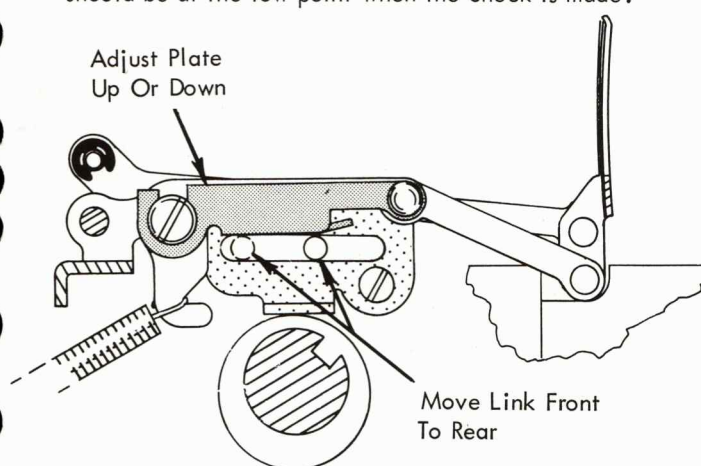

FIGURE 195. Ribbon Lift Guide Plate Adjustment
5. Ribbon Lift Guide Plate - Adjust the plate as low as possible without causing a change in the ribbon lift guide height as the ribbon lift lever is moved from the low lift to the high lift position (Fig. 195). The ribbon lift cam should be at the low point when the check is made.